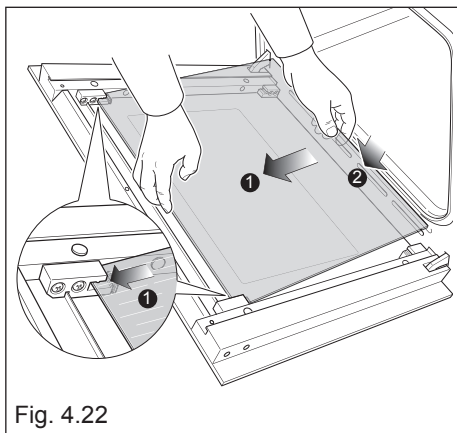
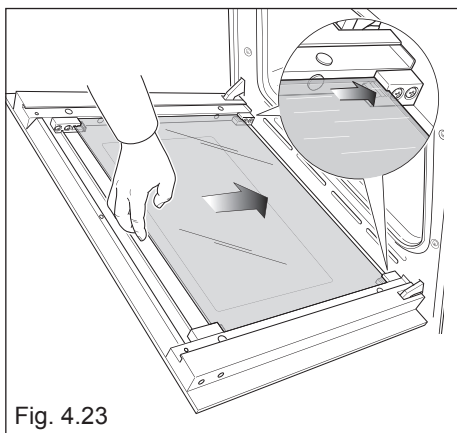

Fig. 4.22
Fig. 4.23
- Gently insert the top edge of the pane into the top clamps (arrow 1 in fig. 4.22), then lower the pane and insert the bottom edge into the bottom clamps (arrow 2 in fig. 4.22); and then slide the pane into position (fig. 4.23).